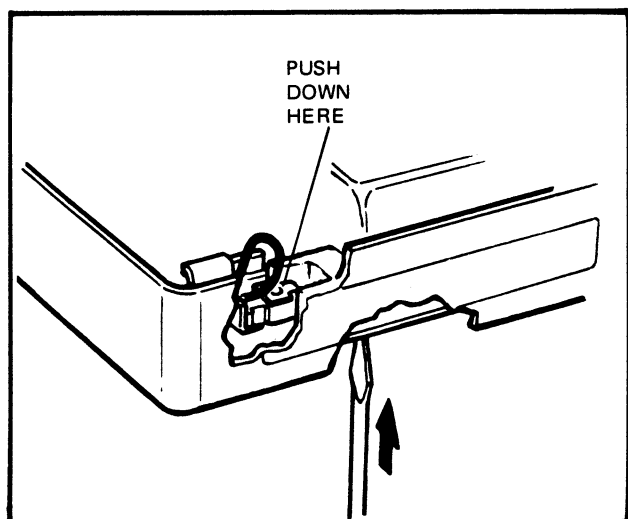

FIG. 5.26 ADJUSTING THE BATTERY INTERLOCK SWITCH
2. Use a narrow-bladed screwdriver to push down on the neck of the interlock switch (Figure 5-26). At the same time, force down the interlock from the other side of the camera body. This will bend the switch allowing it to make more positive contact.